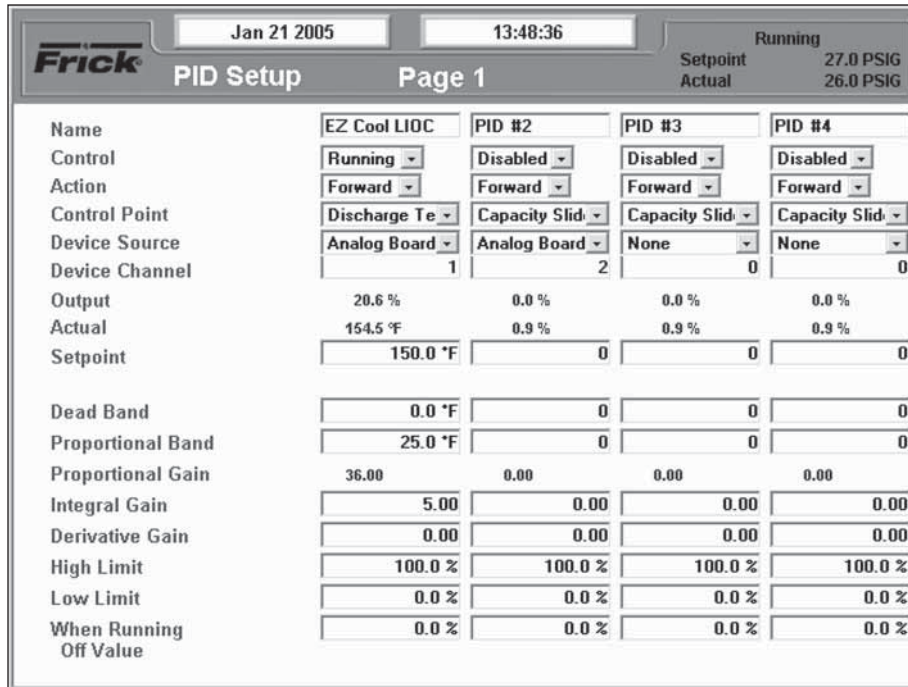

Figure 19
Based on these descriptions set PID #1 for EZ-Cool™ LIOC per Figure 19 as a starting point. Tuning of the output will be required. There should be no need to use a derivative gain.
- Enter push button (Figure 19)
If an alarm has been detected the ICAD display (Figure 19) will alternate between showing Actual alarm and present Opening Degree.